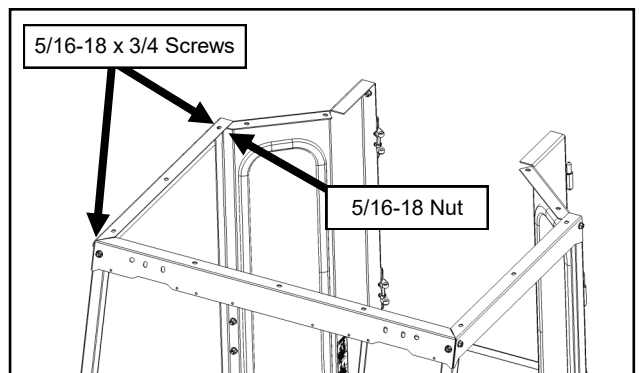

Fig. 10.2 (Install Right Door Header)
- 10.2 Repeat step 10.1 with the right door header. See Figure 10.2.